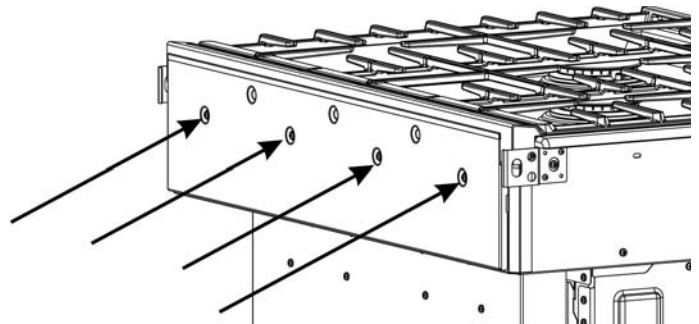
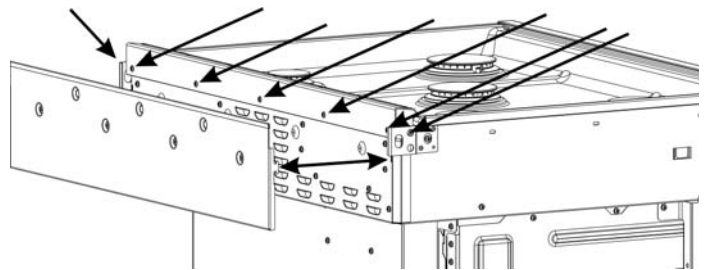

Figure 2: Rear louver cover screw locations
Figure 3: Trim screw locations (louver cover removed)
Can the range slide out enough to give access to the rear and side screws of the rear louver cover and rear vent trim? See Figure 2: Rear louver cover screw locations and Figure 3: Trim screw locations (louver cover removed).
3. Remove the four screws holding the rear louver cover. Save these screws to reattach the louver cover. See Figure 2: Rear louver cover screw locations.
4. Lift the louver cover out of the slots holding it in place. Note the slot locations for later. See Figure 3: Trim screw locations (louver cover removed).
6. Remove the screws holding the trim (five screws on the back and one screw on each end). Save two of these screws for installation of Island Trim. See Figure 3: Trim screw locations (louver cover removed).
8. Install five stand-off screws (included in the Island Trim kit) in the back of the range, in the same locations as the original 5 rear trim screws. See .Figure 3: Trim screw locations (louver cover removed)